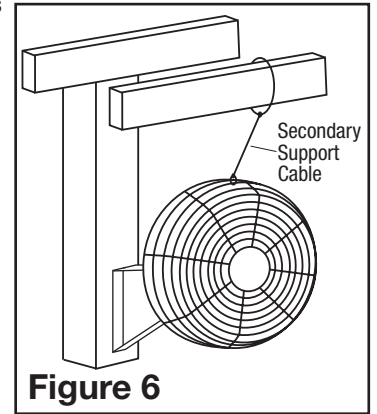

Figure 6
3. Wrap the other end of the Cable around a secure building joist, truss, or other support near the Fan. Take up all excess slack in the Cable (**Figure 6**).